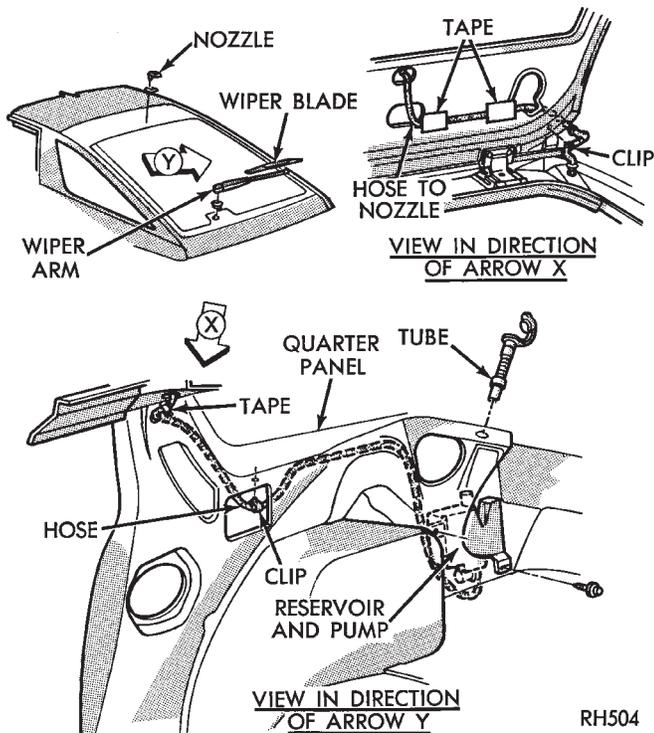

Fig. 34 Liftgate Washer System
- (1) Unlock and open liftgate.
- (2) Remove right rear quarter panel inside trim as necessary to gain access to reservoir (Fig. 34).
- (3) Remove two reservoir mounting screws.
- (4) Disconnect wiring harness and filler tube from reservoir and pump assembly.
- (5) Disconnect the washer hose and block the pump outlet to prevent liquid from running out.
- (6) Remove reservoir and pump assembly from rear quarter panel.